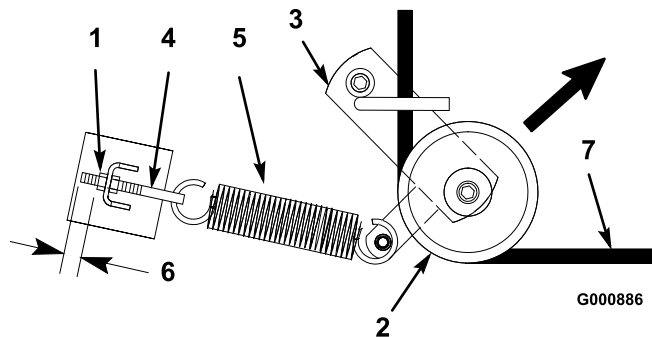
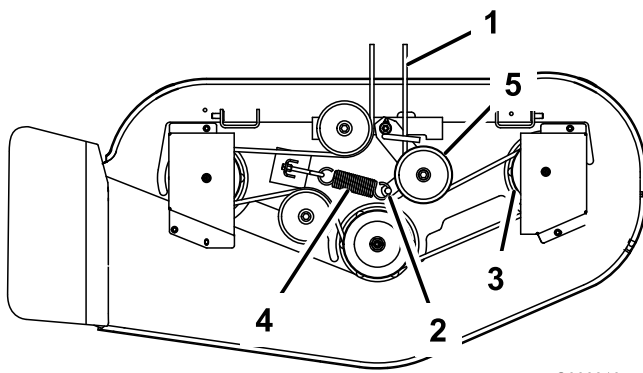

Figure 49
Figure 50
4. Pull the idler pulley in the direction shown in Figure 49 and roll the belt off of the pulleys.
5. Route the new belt through the idler arm and around the idler pulley (Figure 49).
6. Pull the idler pulley in the direction shown in Figure 49 and route the belt onto the other pulleys (Figure 50).
Note: Check to ensure that the length of exposed thread on the spring eye bolt is 1/8 in. (3 mm) (Figure 49).